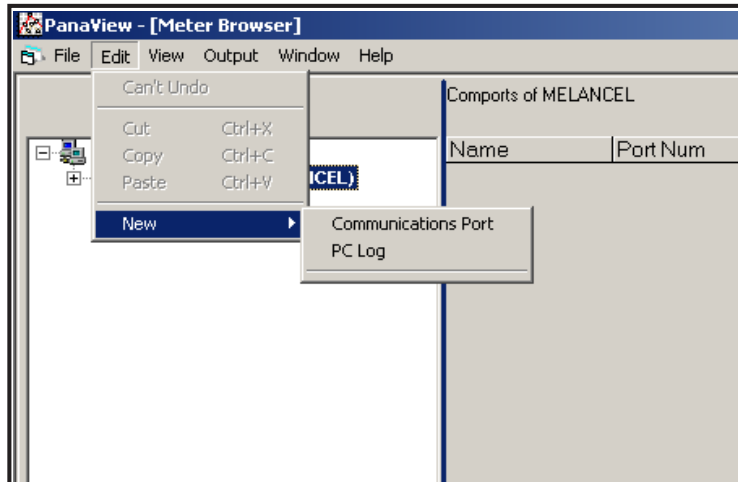

Figure 17: The Edit Menu
3. Click on the “*New*” menu option to select it, and a submenu opens with two choices on it (see Figure 17).